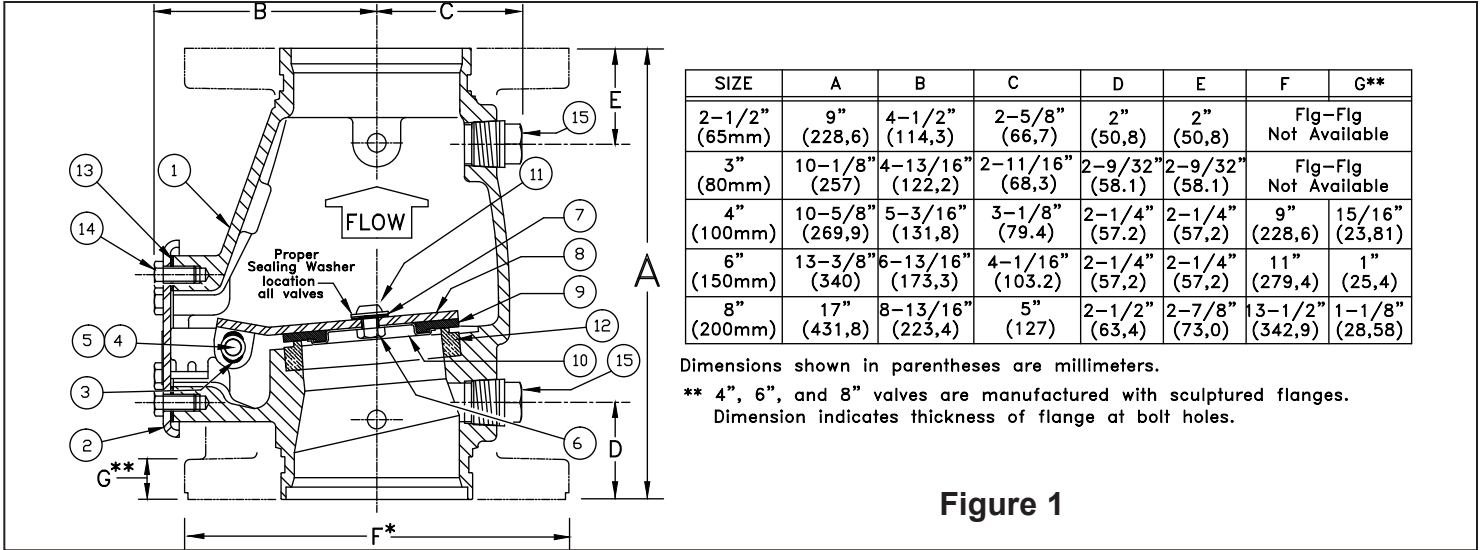

Figure 1
**Material Standards:** Refer to Figure 1.
#### 5. OPERATION (Refer to Figure 1)
(Refer to Figure 1)
2. To remove clapper rubber (9):
- a. Use the appropriate wrenches to loosen and remove the button-head socket screw (11), hex nut (6), sealing washer (7), and rubber retainer (10).
- b. Remove the clapper rubber (9) for inspection. If the clapper rubber shows signs of wear, such as cracking, cuts, or excessively deep grooves where the rubber contacts the water seat, replace the rubber.
3. To re-install clapper rubber (9):
- a. Place the clapper rubber (9) over the center hub of the rubber retainer (10).
- b. Position the retainer (10) (with rubber in place) against the clapper (8) as shown in Figure 1.
- c. Replace and tighten the button-head socket screw (11), sealing washer (7), and hex nut (6). The sealing washer (7) and hex nut (6) must be located on the top side of the clapper as shown in Figure 1. Do not over-tighten.
4. To remove clapper (8), and/or hinge pin (4):
- a. Remove the hinge pin retaining rings (5) to free the hinge pin (4) for removal. After the hinge pin (4) is removed, the clapper (8) can be removed.
5. To re-install clapper (8), and/or hinge pin (4):
- a. Verify that the clapper rubber (9) is in good condition and that it is properly installed.
- b. Position the clapper (8) with the elongated hinge holes aligned between the holes of the hinge bracket welded inside the cover (2). The system (top) side of the clapper (8) must face the direction indicated by the flow arrow stamped inside the cover (2).
- c. Insert the hinge pin (4) through the holes at one end of the hinge assembly. Continue to push the hinge pin (4) through the holes at the remaining end of the hinge assembly.
- d. Re-install the hinge pin retaining rings (5).
- a. Verify that cover gasket (13) is in position and in good condition.
- b. Slide the cover/clapper assembly (2-11) into the Swing Check Valve so that the clapper rubber (9) contacts the water seat (12).